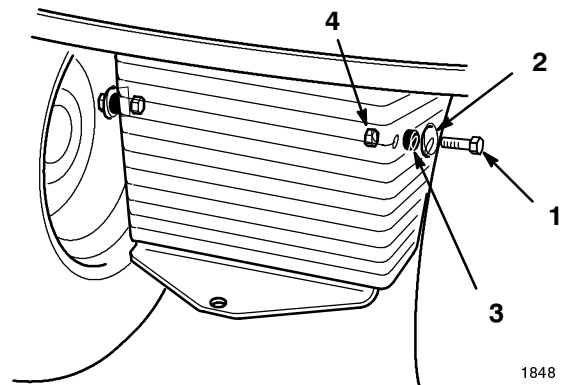

Figure 9
1. Install washers and spacers for bagger mount outside the tractor frame, using a 3/8 x 2” bolts and 3/8” lock nuts (Fig. 9).